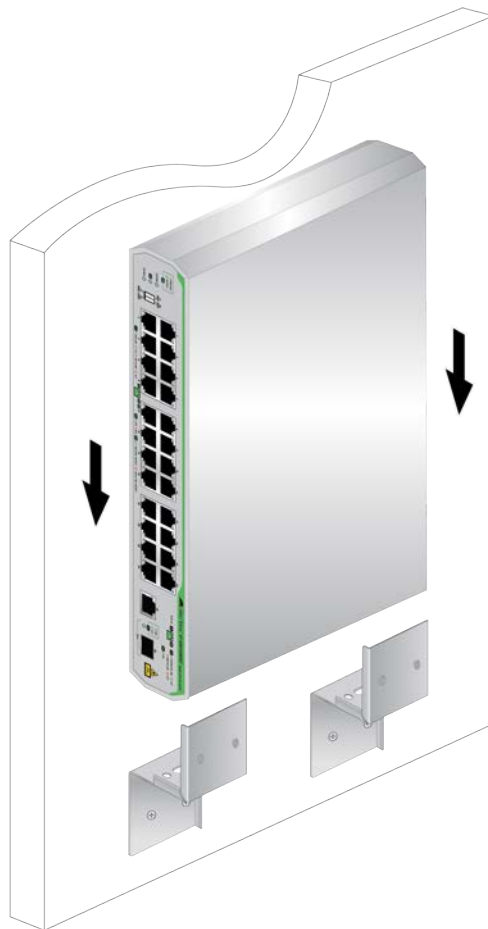

Figure 27. Placing the Switch into the Brackets
8. Slide the switch into the brackets on the wall as shown in Figure 27.